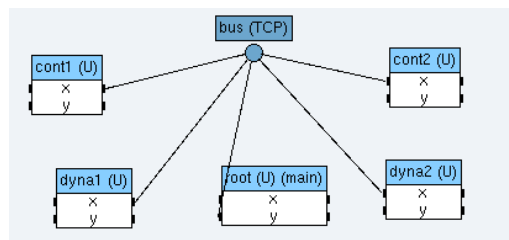

Figure 8.15: The architecture with 5 operators.
- create the `multi` architecture (*cf.* figure 8.15):